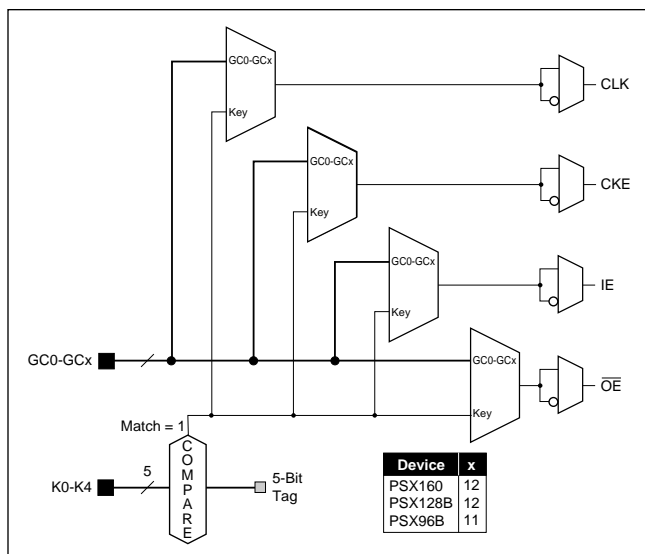

Figure 9. I/O Control
The PSX family has a flexible control structure that gives the user complete control over the behavior of each I/O Port. As shown in Figure 9 and described below, clock (CLK), clock enable (CKE), input enable (IE) and output enable (OE) for each I/O Port can be selected from two different sets of control inputs. The control polarity can be individually selected.